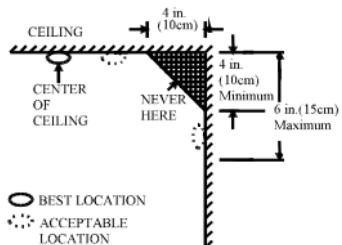

Figure 4: Recommended best and acceptable locations to mount smoke and heat detectors
- ◆ Install smoke and heat detectors as close to the center of the ceiling as possible. If this is not practical, put the detector on the ceiling, no closer than 4 inches (10 cm) from any wall or corner, as shown in Figure 4.
- ♦ If ceiling mounting is not possible and wall mounting is permitted by your local and state codes, put wall-mounted detectors between 4 and 6 inches (10 ~ 15 cm) from the ceiling, also see Figure 4.